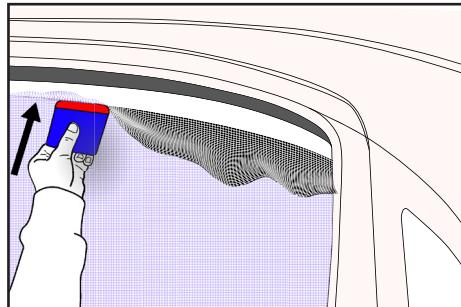

Figure 28
- › Apply the micro-perforated film using the squeegee up to the top of the window. (FIG. 28)